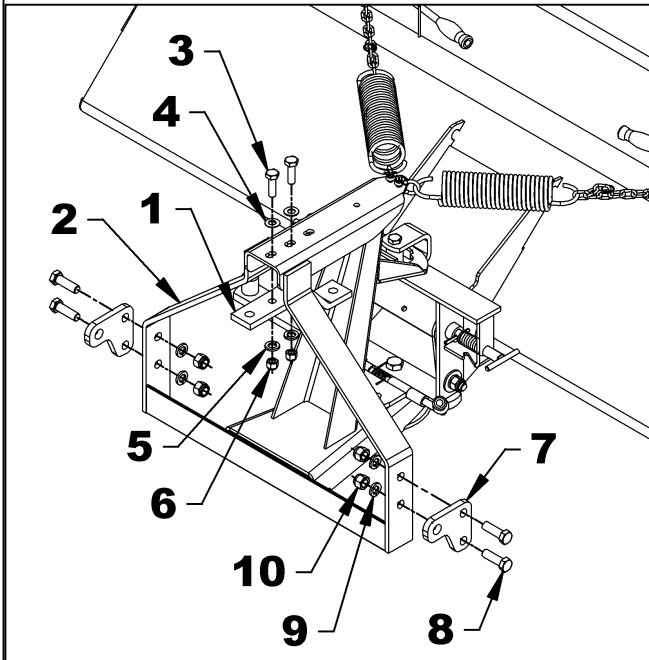

Figure 7C
- If the A distance is longer than 3", proceed with the Installation option 1 - figures 7C-8C.
1. **Figure 7C or 9C:** As shown, attach the common upper support (item 1) to the universal hitch (item 2) with two 1/2"NC x 1 3/4" lg. hex. bolts (item 3), 9/16" hole flat washers (item 4), 1/2" lockwashers (item 5) and 1/2"NC nylon insert locknuts (item 6). The common upper support (item 1) must be placed at the end of the slotted holes towards the front of the broom.
2. **Figure 7C or 9C:** As shown, attach the two common lower supports (item 7) to the universal hitch (item 2) with four 5/8"NC x 2" lg. hex. bolts (item 8), 5/8" lockwashers (item 9) 5/8"NC nylon insert locknuts (item 10).